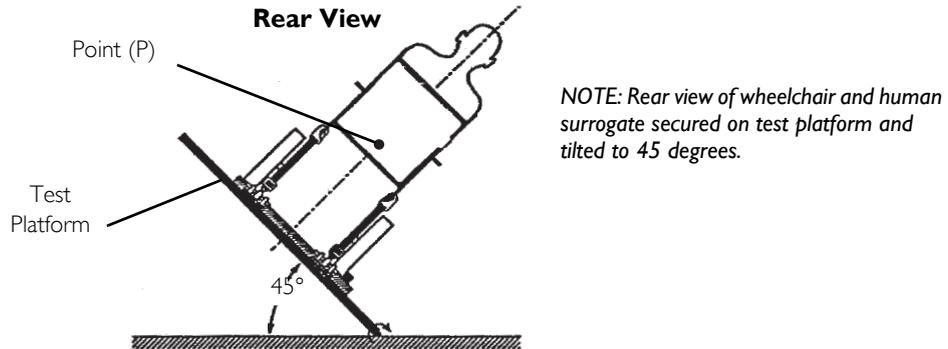

FIGURE 3 Vehicle-Anchored Belts
The test for Lateral Stability Displacement for Point (P) is shown in FIGURE 3. The average test result for point (P) is 0.65-inches (16.5 mm).